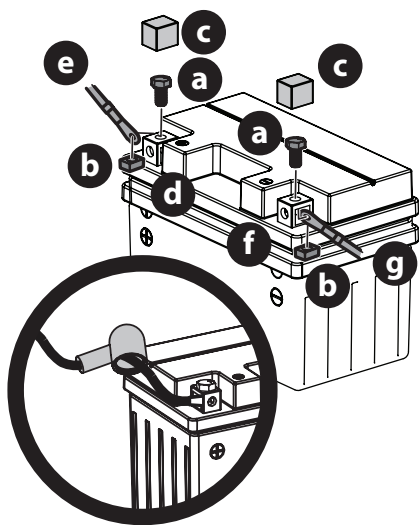

Fig. 14
- Remove the factory installed hex screws (a) and square nuts (b) located either on the end of the wiring harness or in the bag with this manual. Retain the hardware for later instructions (Fig. 14 on page 12).
2. Remove the plastic cover (c), if present, from the positive battery terminal (d) and attach the red cable (e) to the positive battery terminal (d) with one of the hex screws (a) and square nuts (b), from Step 1. Use a Philips screw driver (Fig. 14).
3. Position the red rubber boot over the positive battery terminal to help protect it from corrosion (Fig. 14 inset).
4. Remove the plastic cover (c), if present, from the negative battery terminal (f) and attach the black cable (g) to the negative battery terminal (f) with the remaining hex screw (a) and square nut (b) (Fig. 14).